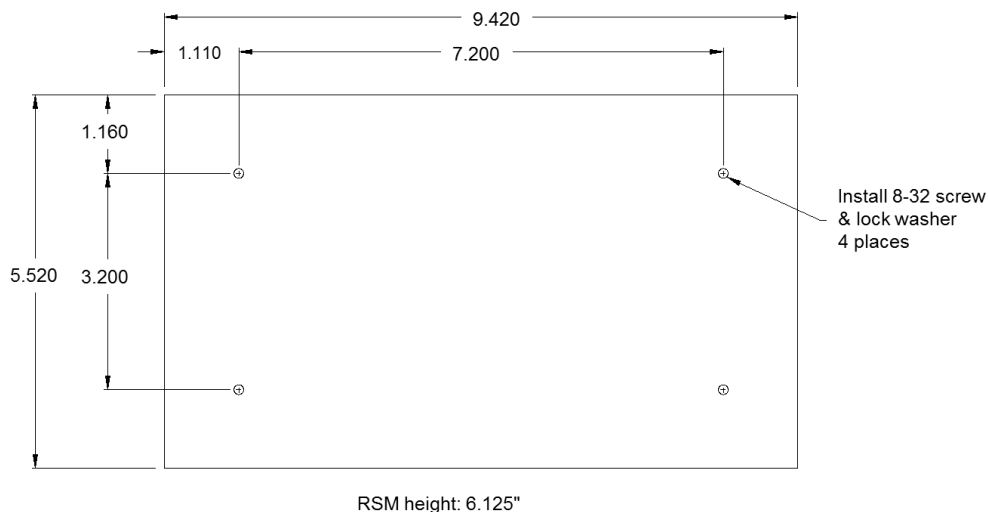

Fig. 7, RSM bolt hole pattern (bottom view)
Installation of the RSM chassis requires four (4) clearance holes for the #8-32 threaded screws. See Figure 7 for the bolt hole pattern (dimensions are shown in inches).
Mount the Model 3-LPM-N1-SS on a flat surface. Follow the bolt hole pattern on the mounting plate (see Figure 7).